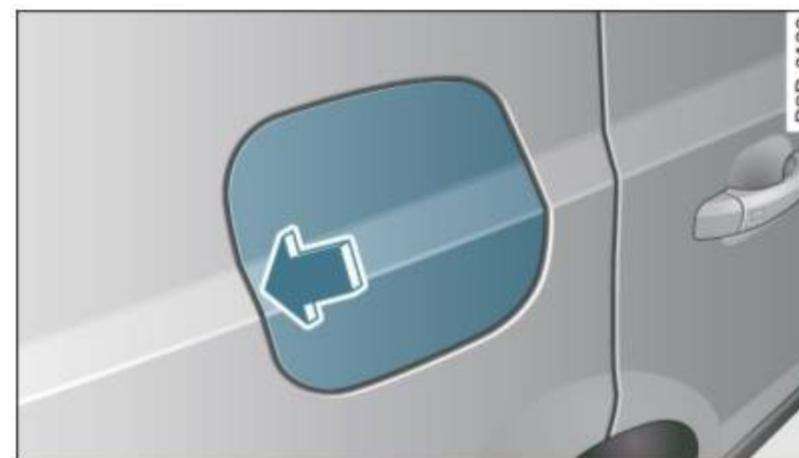

Fig. 195 Right rear vehicle side: Opening the fuel filler flap
- Press the left side of the fuel filler flap to open it ⇒ fig. 195 -arrow-.